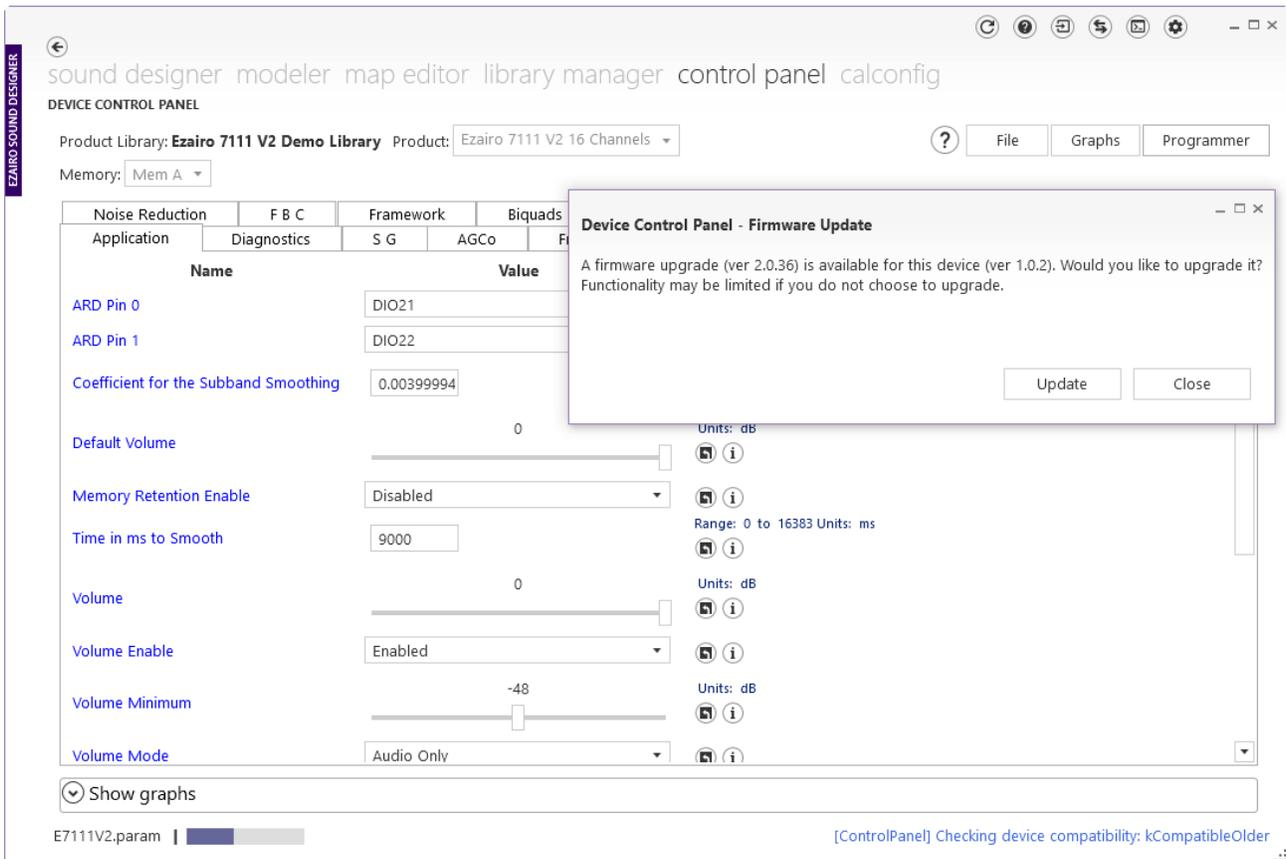

Figure 10. Upgrading the Firmware
- Before communicating any parameter information, Sound Designer Software checks the device to determine the firmware version currently residing in NVM. If the current version (contained within Sound Designer Software) is not the same as that currently in the device, you are prompted to upgrade the firmware. The prompt screen looks similar to that shown in the figure "Upgrading the Firmware" (Figure 10).